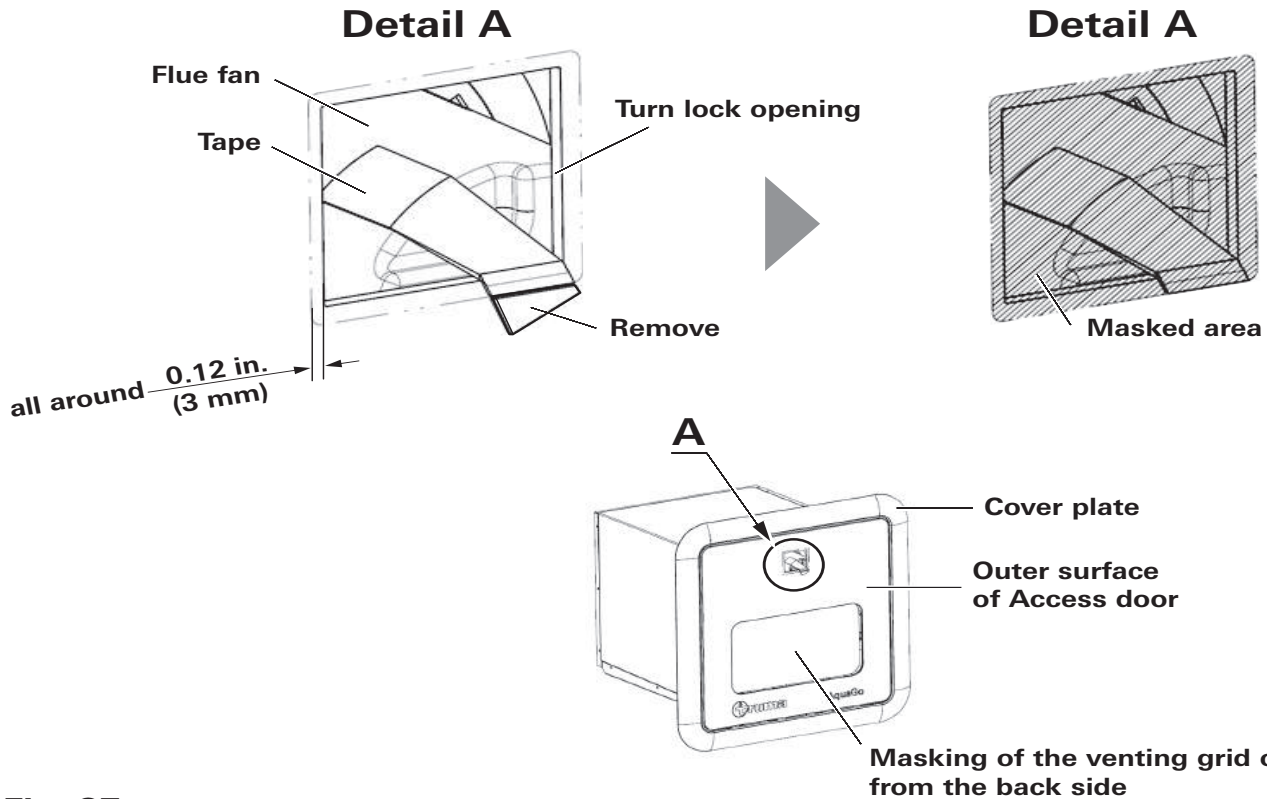

Fig. 37
The following parts (see Fig. 37) may be painted:
- This can be done with help of tape that joins the flue fan and the edge of the turn lock opening (see Fig. 37 for this detail).